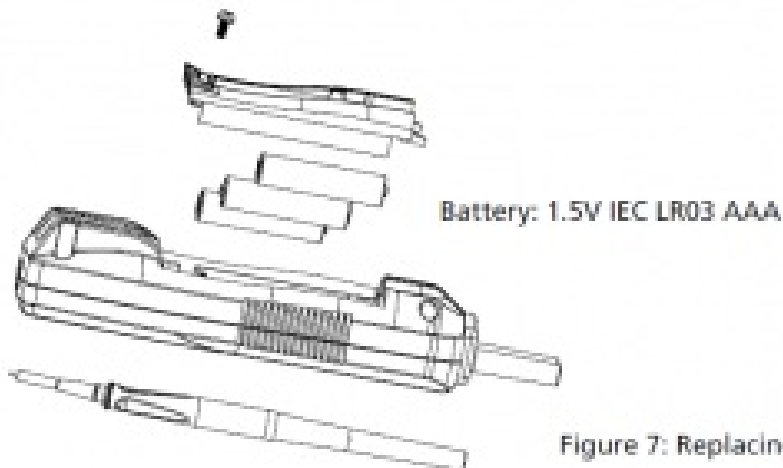

Figure 7: Replacing the batteries
The VPC-12 uses three 1.5V batteries. To replace the batteries, follow these steps and refer to Figure 7:
4. Replace the battery as shown in Figure 7. Observe the battery polarity shown in the battery compartment.